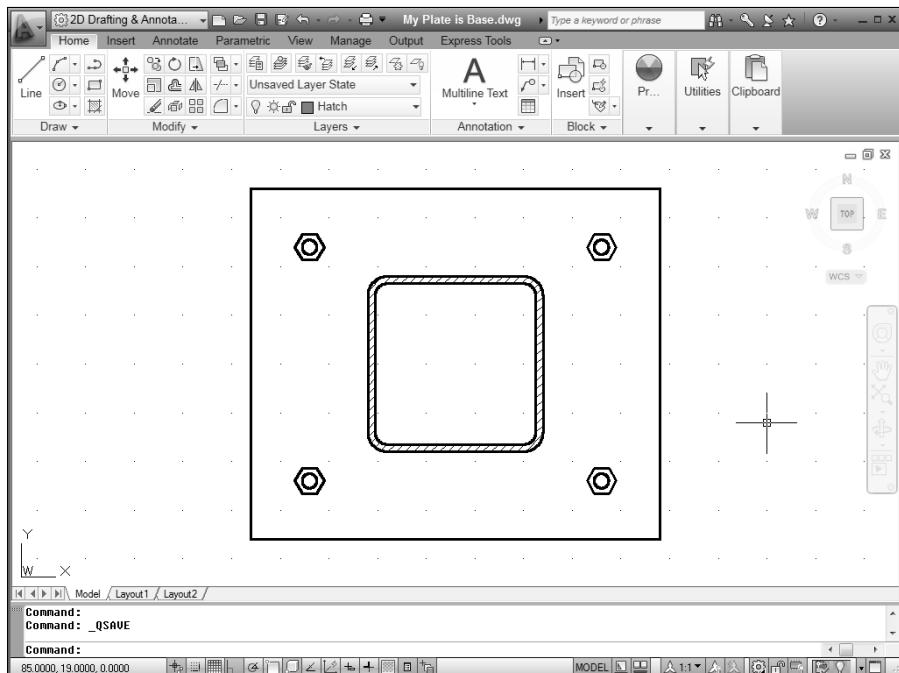

Figure 3-1:
In this chapter, you create a drawing of an architectural detail — a base plate and column, as shown in Figure 3-1. Even if you don't work in architecture or building construction, this exercise gives you some simple shapes to work with and demonstrates commands you can use in most drafting disciplines.
In this chapter, I walk you through creating, editing, viewing, and plotting a new drawing — refer to Figure 3-1 if you want to get an idea of what the finished product looks like. You can follow these steps using either imperial or metric units; I show metric values in brackets after the imperial ones, like this: Type **1.5 [38]** and press Enter.
11. Click the tiny down arrow below the Zoom button (the one with the magnifying glass) on the Navigation bar (at the right edge of the drawing area in Figure 3-1), then choose Zoom All from the menu.